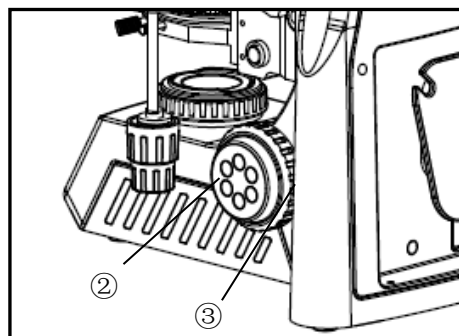

Fig.19
3.2.4 Focusing the Specimen (Fig.19)